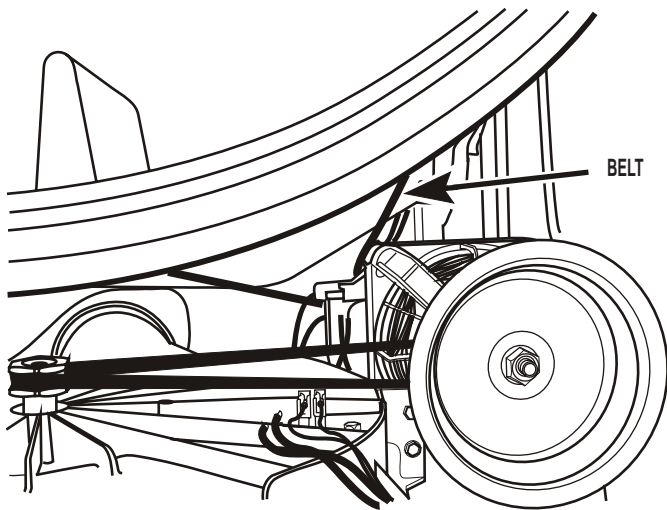

FIGURE 4
9. Reach around the back of the drive motor and push the idler wheel arm to relieve the spring tension on the belt, then slide the belt off the idler and motor pulleys. See *Figure 4*.